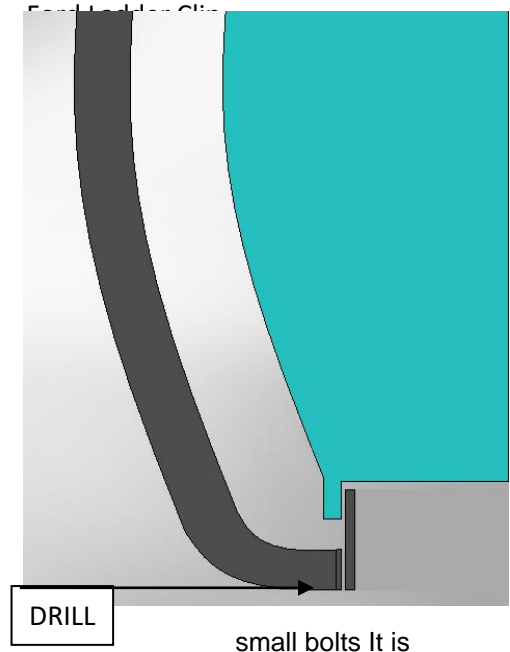

Figure 1: Drawing of van bottom with ladder seen from rear of vehicle
1. Fit the ladder onto the van by hooking the lower plate under and behind the pinch weld of the van (See **Figure 1**)